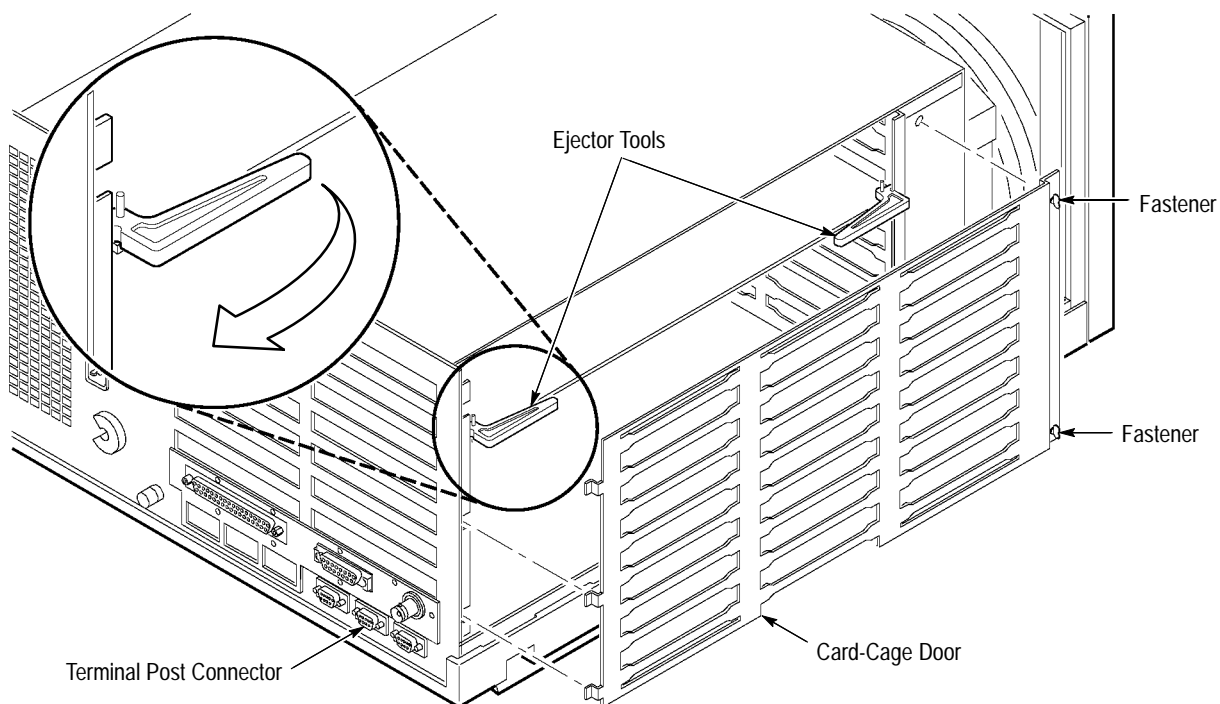

Figure 3-3: Ejector Tools and Location of Card-Cage Door Fasteners
2. To remove the card-cage door, unscrew (counterclockwise) the fasteners on the card-cage door (see Figure 3-3). Remove the door and set aside.